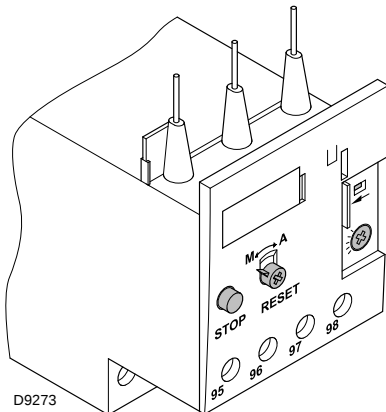

Fig. 28
The electro-mechanical thermal relay (Fig. 28) is used to avoid damage to the motor owing to a strong increase in absorption or the lack of a phase.
- To reset, in the case of an intervention of the thermal relay, press the button **"RESET"** (Fig. 28).
- The button **"STOP"** (Fig. 28) opens the NC (95-96) contact and stops the motor.